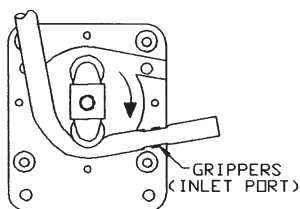

FIG. 2
7. Push the new tubing into the inlet port anchoring the tubing in grippers (see Fig. 2) while rotating the roller bracket assembly.